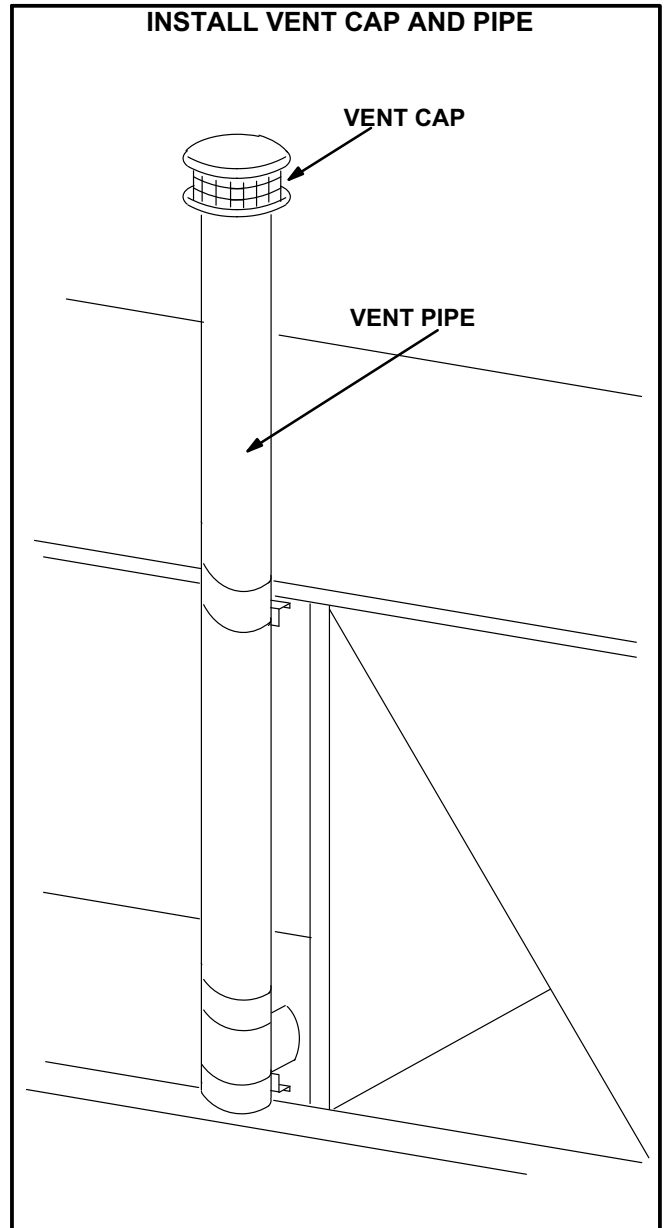

FIGURE 10
- 11- Install field-provided vent cap on the second vent pipe. Secure in place with two screws. Insert the vent pipe into the vent pipe which is already installed on the unit. Secure with two screws. See figure 10.